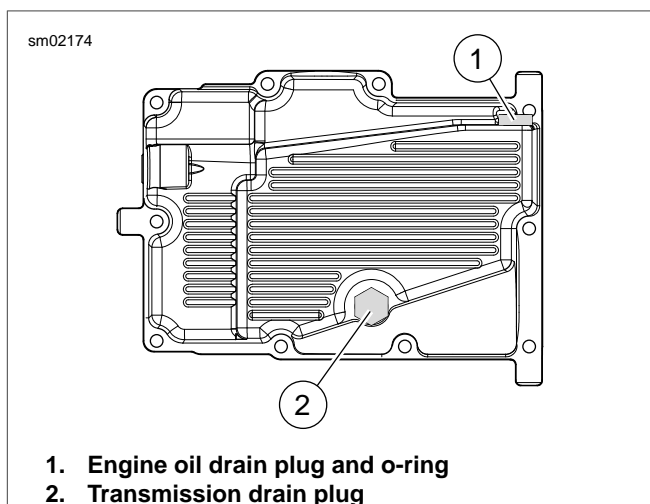

Figure 1-19. Oil Pan
- See Figure 1-19. Remove transmission drain plug and drain lubricant into a suitable container.